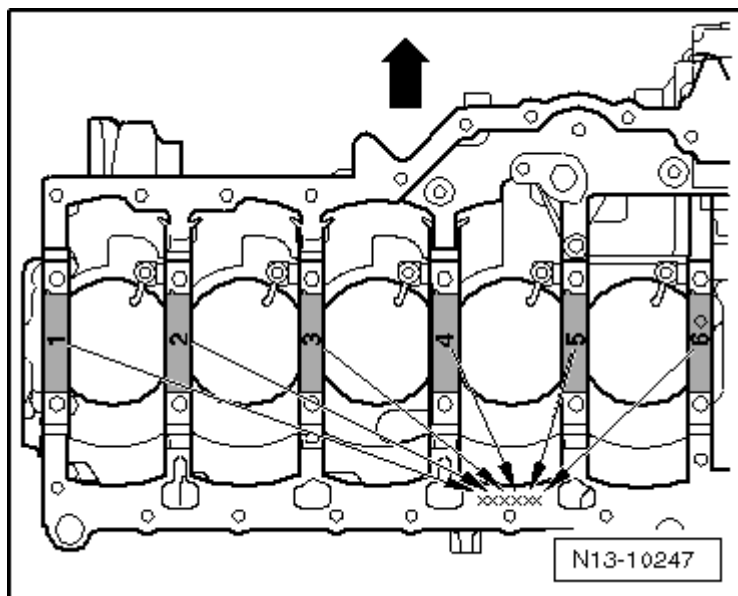

Fig. 13: Identification Of Top Crankshaft Bearing Shells
- Crankshaft bearing shell, allocating. Refer to **Fig. 13**.